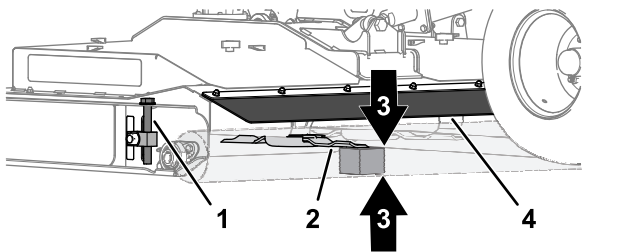

Figure 80
1. Working at the back of the mower deck, lift the rear flap and align the wood block 51 mm (2 inches) between the rear end of the center mower blade and the ground (Figure 80).